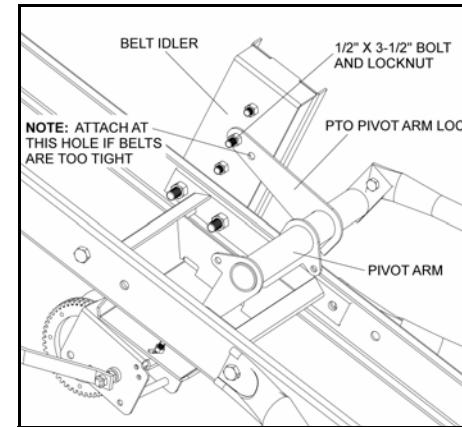

Figure 3.49
17. Install PTO pivot arm lock by replacing bolt on belt idler with a  $1/2'' \times 3-1/2''$  bolt and attaching PTO pivot arm lock through the hole closest to the end (see Figure 3.49).
**Note:** The belt adjustment may be unable to provide enough slack in the belts to install them. If this is the case, adjust the PTO pivot arm lock by securing it through the inner hole (see Figure 3.49).